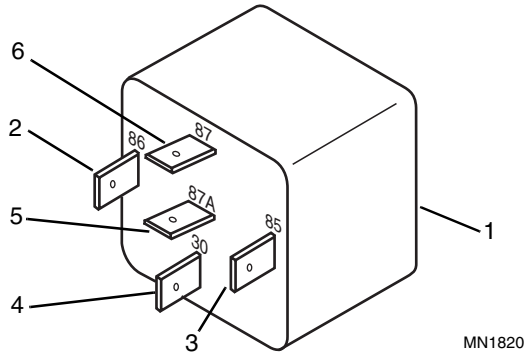

Figure 8-43 Loader Arm Lockout Relay
4. Use an ohmmeter or a continuity tester to test the relay (Fig. 8-43, 1) for continuity as follows:
- a. Continuity should exist between terminals (Fig. 8-43, 2 & 3). If continuity is NOT present, the relay is defective.
- b. Continuity should exist between terminals (Fig. 8-43, 4 & 5). If continuity is NOT present, the relay is defective.
- c. Continuity should NOT exist between terminals (Fig. 8-43, 4 & 6). If continuity IS present, the relay is defective.
5. Apply 12 VDC to relay terminals (Fig. 8-43, 2 & 3).
- b. With power applied to terminals (Fig. 8-43, 2 & 3), continuity should exist between terminals (5 & 6). If continuity is NOT present, the relay is defective.
- c. With power applied to terminals (Fig. 8-43, 2 & 3), continuity should NOT exist between terminals (4 & 5). If continuity IS present, the relay is defective.
6. Replace the relay (Fig. 8-43, 1) if it fails any tests in Steps 4 and 5.